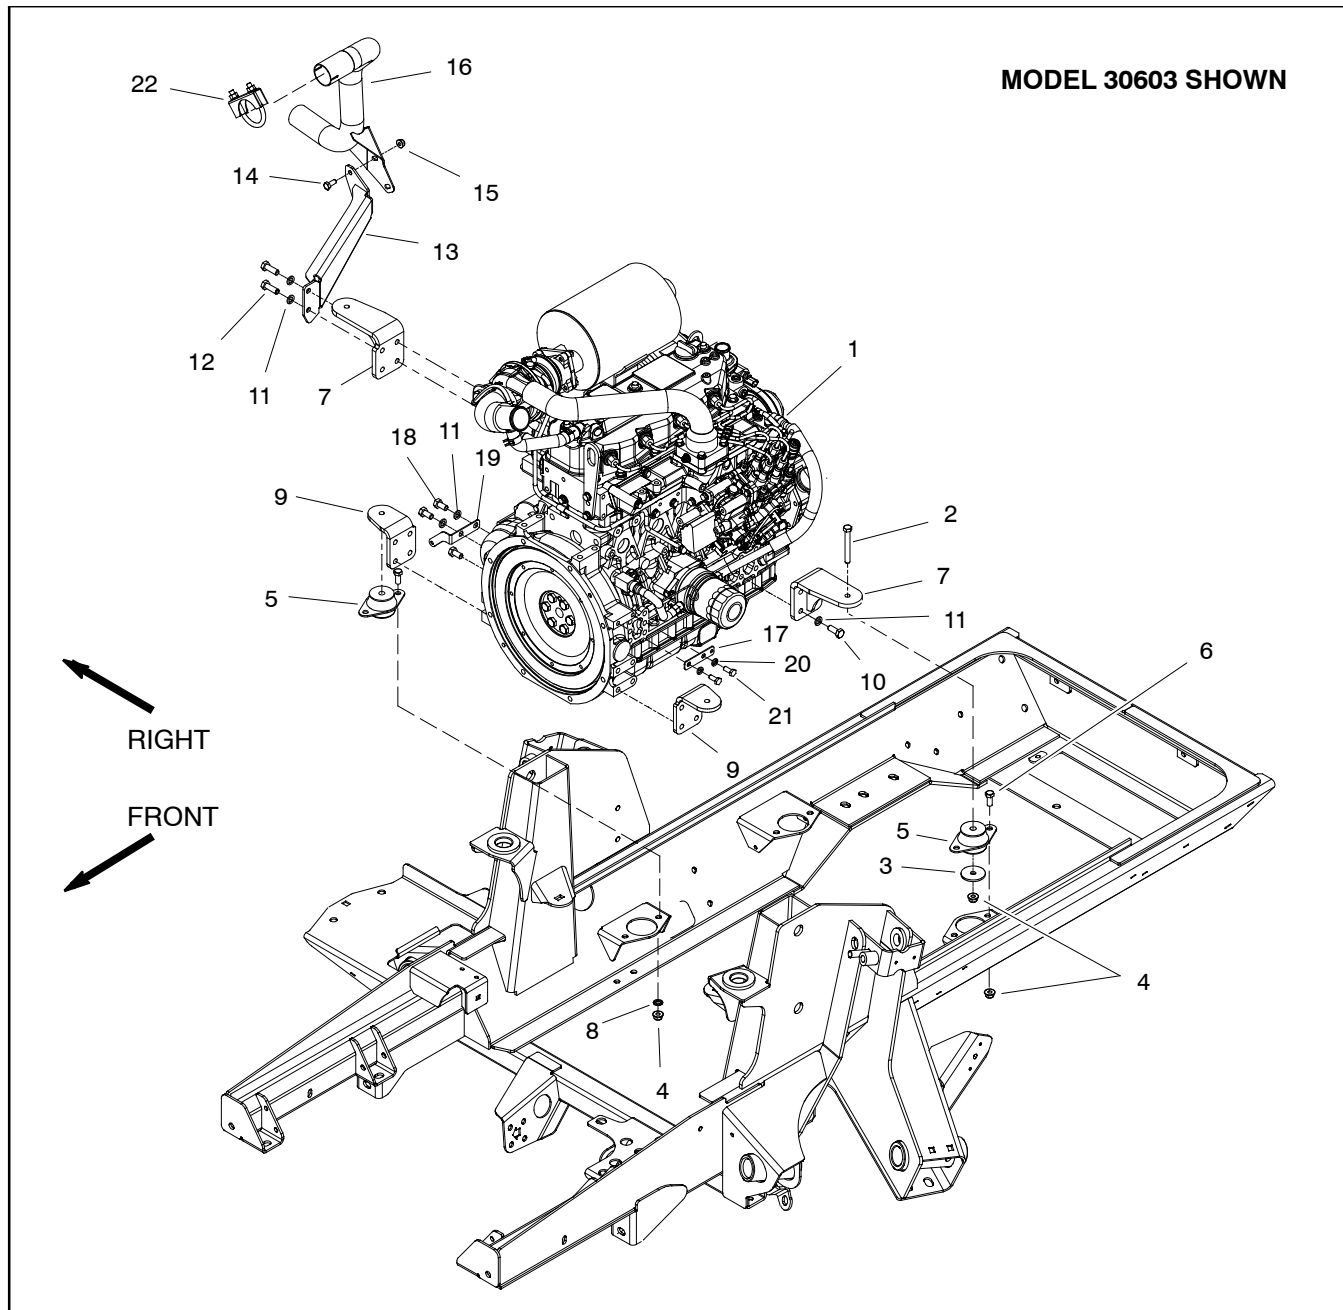
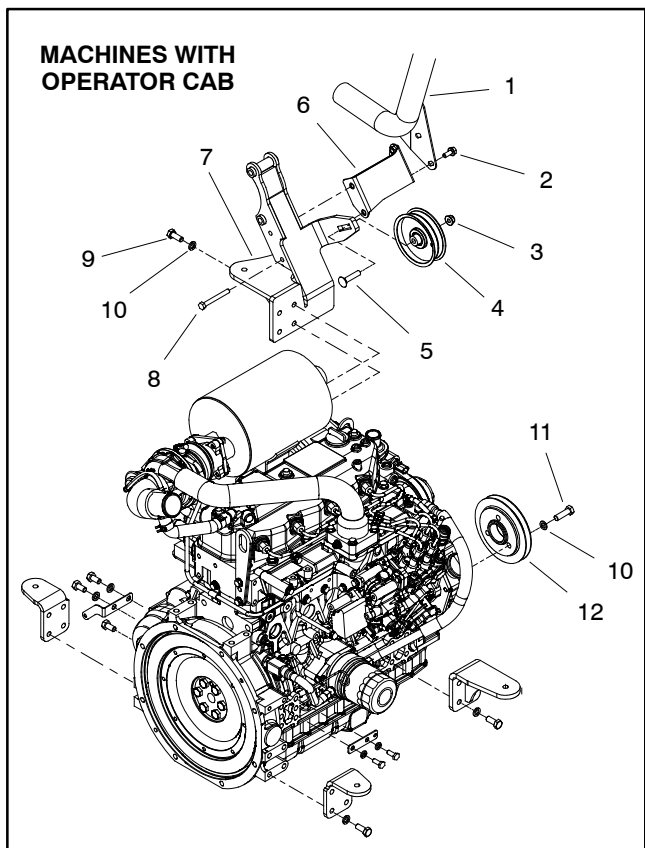

Figure 15
Figure 20
Engine Removal (Fig. 15)
6. Remove exhaust pipe (item 16 in Fig. 15) and exhaust bracket (item 13 in Fig. 15 or item 6 in Fig. 20) from engine.
18. If necessary, remove engine mount brackets from the engine using Figure 15 or 20 as a guide.
Engine Installation (Fig. 15)
2. If removed, install engine mount brackets to the engine using Figure 15 or 20 as a guide.
13. Install and secure exhaust bracket (item 13 in Fig. 15 or item 6 in Fig. 20) and exhaust pipe (item 16 in Fig. 15) from engine.